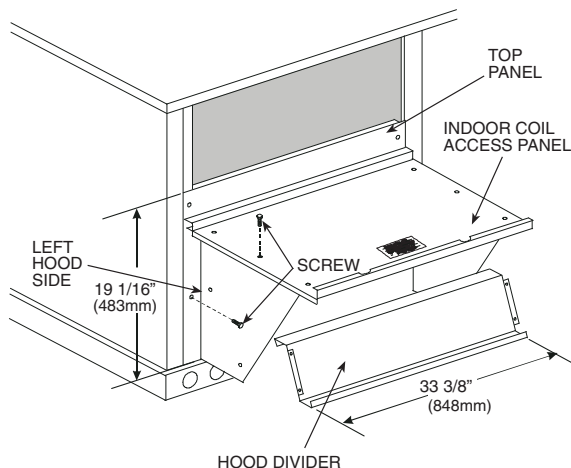

Fig. 16 — Economizer Hood Construction
2. Swing out indoor coil access panel and insert the hood sides under the panel (hood top). Use the screws provided to attach the hood sides to the hood top. Use screws provided to attach the hood sides to the unit. See Fig. 16.
4. Insert the hood divider between the hood sides. See Fig. 16 and 17. Secure hood divider with 2 screws on each hood side. The hood divider is also used as the bottom filter rack for the aluminum filter.